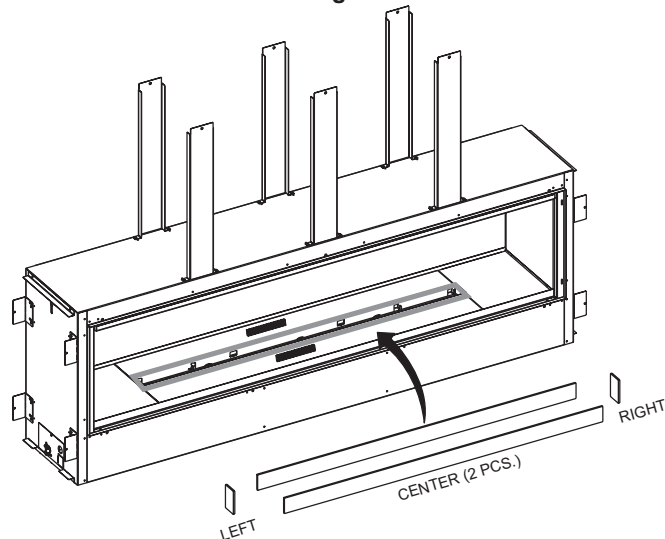

Figure 65
5. Retrieve the 4 glass panels and install on front, back and both sides of burner. **See Figure 65.**